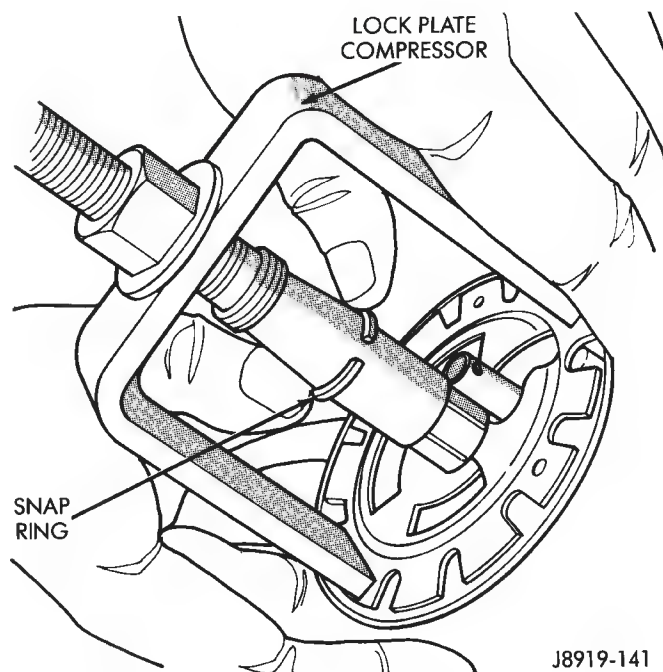

Fig. 24 Lockplate Retaining Ring Installation
(33) Insert the ignition key in the cylinder and turn it to the ON position. Install the key warning buzzer switch.
(34) Install the turn signal switch. Fold the wires against the connector. Route the wire harness and connector down through the steering column. Position the switch in the key/lock cylinder housing. **Do not** install the switch retaining screws at this time.
(35) Install the windshield wiper wire harness and switch. Route the wire harness down through steering column jacket.
(36) If equipped, install the cruise control wire harness. Install the turn signal stalk by pushing it straight into the column.
(37) Insert the hazard warning knob in the hazard warning switch and press it inward. Align and install the turn signal switch retaining screws. Ensure that the turn signal switch is properly seated before tightening the screws. Tighten the screws to 4 N·m (33 in. lbs.) torque. Thread the hazard warning switch knob into the switch and pull the knob outward.
(38) Install and seat the upper bearing race in the key/lock cylinder housing.
(39) Install the upper bearing preload spring, the canceling cam and the lockplate.
(40) Install a replacement lockplate retaining snap ring on the sleeve of the Lock Plate Compressor C-4156. Install the tool on the steering shaft (Fig. 24).
(41) Compress the lockplate with the compressor tool and position the retaining snap ring in the steering shaft groove.
(42) Remove the compressor tool. Ensure that the retaining ring is completely seated in the groove before removing the tool.
(43) Position the wire harness protectors if equipped, over the harnesses and snap in place on steering column.
(44) Install the lockplate cover.
(45) Install the gear selector lever and the retaining pin.
(46) Install the steering wheel. Refer to the installation procedure.
(47) Insert the ignition key in the key/lock cylinder; turn the cylinder to the OFF-UNLOCK position; move the ignition switch downward to eliminate any switch-to-remote rod lash; and tighten the ignition switch attaching screws to 4 N·m (35 in. lbs.) torque.